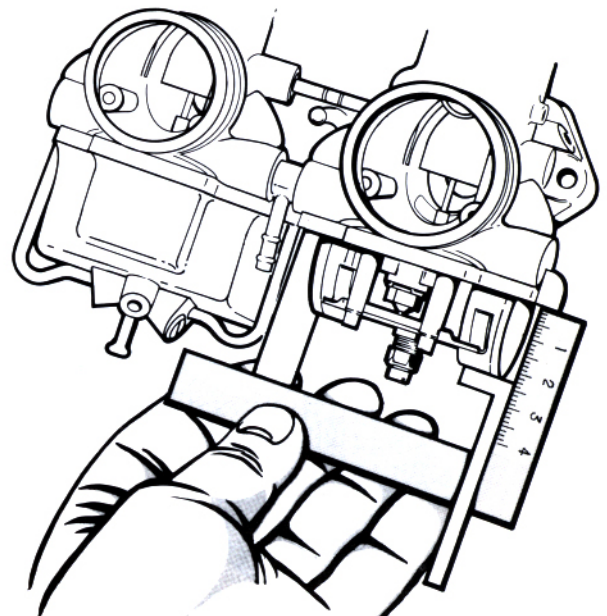

FIG. 10 Float Height Gauge
2. Position the float height gauge against the carburetor body as shown in Fig. 10. If the gauge has been set to the specified float height, it should just touch the float without causing the float to move.